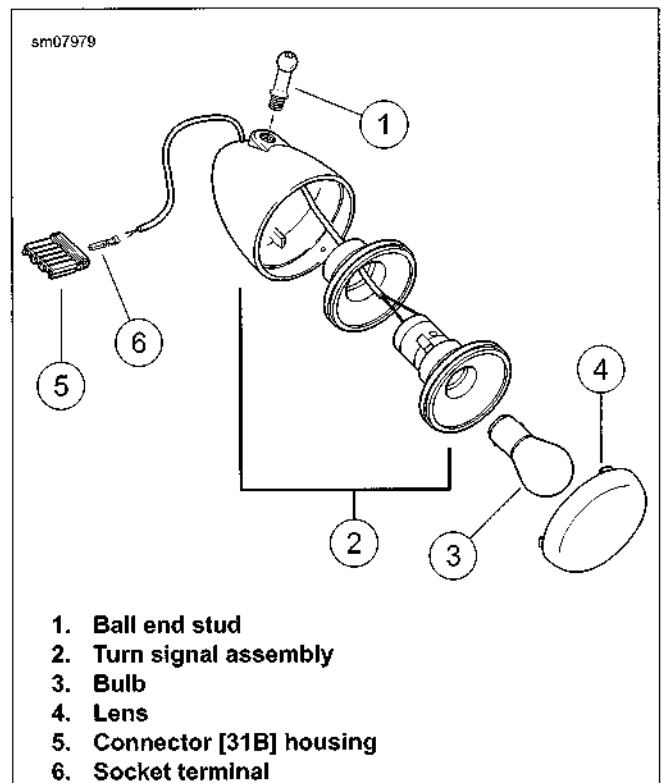

Figure 6-62. Turn Signals: All Except XL 1200X
1. See Figure 6-62. Inspect ball head stud. Replace or repair as necessary.